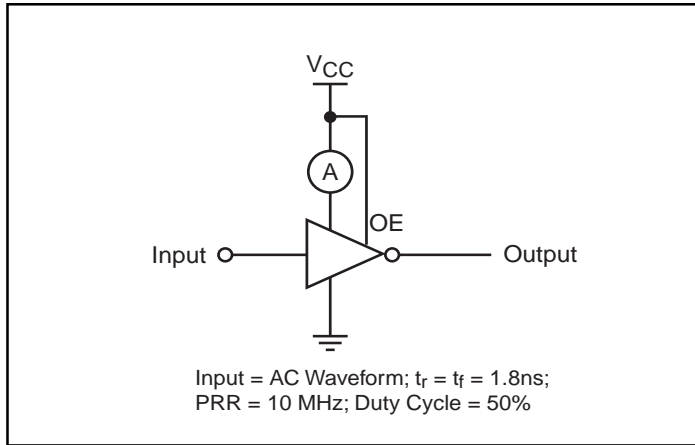

Figure 2.  $I_{CCD}$  Test Circuit
3. CPD is defined as the value of the internal equivalent capacitance which is derived from dynamic operating current consumption (ICCD) at no output loading and operating at 50% duty cycle (see Figure 2). CPD is related to ICCD dynamic operating current by the expression: ICCD = (CPD)(VCC)(fIN) + (ICC static).